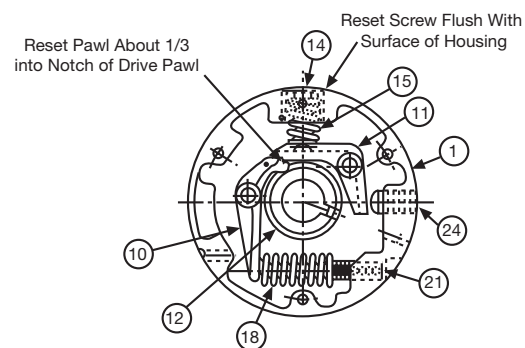

Figure 17
1. If clutch is manual reset, install the reset screw (24) from the inside of the housing turning counter-clockwise until the reset screw pin stops the screw from turning.
2. Press the long end of rotor (12) into housing bearing (2).
3. This step is for manual reset only. Go to next step for automatic reset. Install the drive pawl (10) into the appropriate hole in the housing (1), and the reset pawl (11) into its appropriate hole in the housing. Check the fit of the reset pawl into the notch of the drive pawl with the clutch disengaged. The reset pawl should fit approximately one-third of the way into the notch. Grinding the nose of the reset pawl may be necessary to obtain the proper fit. (See Figure 17)
4. Remove the drive pawl (10). The drive pawl and the drive spring (18) will have to be installed simultaneously. If a drastic change in torque is desired, use this step to change the drive spring. Place one end of the drive spring over the drive spring thrust washer (22). Insert the knob of the drive pawl into the other end of the drive spring. Insert the trunnion of the drive pawl into the hardened bushing in the housing, while the nose of the drive pawl fits into the notch of the rotor (12).
6. Insert the reset spring disc (15) inside the reset spring screw (14). Apply grease to the surface of the disc.
7. If a drastic change in torque is desired, use this step to change the reset spring. Place the reset spring (19) on the surface of the reset spring disc. Apply grease to the end of the ball thrust (20) and insert ball thrust into the reset spring.
8. Apply grease to the threads of the reset spring screw (14) and insert the assembly of the reset spring screw, reset spring disc (15), reset spring (19), and ball thrust (20) through the hole stamped 9 on the housing. Tighten the reset spring screw until it is flush with the surface of the housing. (See Figure 17)